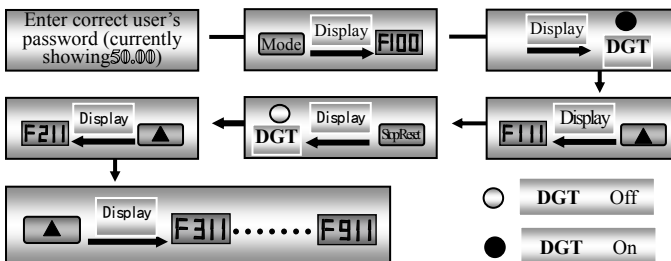

Fig 2-2 Switch over in a Code Group or between Different Code-Groups
e.g. when function code shows F111, DGT indicator will be on. Press “▲”/ “▼” key, function code will keep increasing or decreasing by degrees within F100~F160; press “stop/reset” key again, DGT indicator will be off. When pressing “▲”/ “▼” key, function codes will change circularly among the 10 code-groups, like F211, F311...FA11, F111..., Refer to Fig 2-2 (The sparkling “50.00” is indicated the corresponding target frequency values).